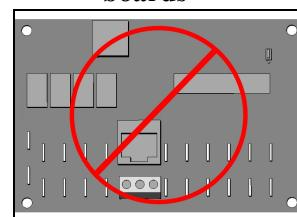

Figure 7
- Do not attempt to connect heat pump equipment in multiple configurations with previous HP7 and HP7R versions of the control board. See Figure 7. No onboard port is provided for heat pumps with these control board versions. An Automatic Sequencing Controller (ASC) accessory is required for those types of heat pumps.